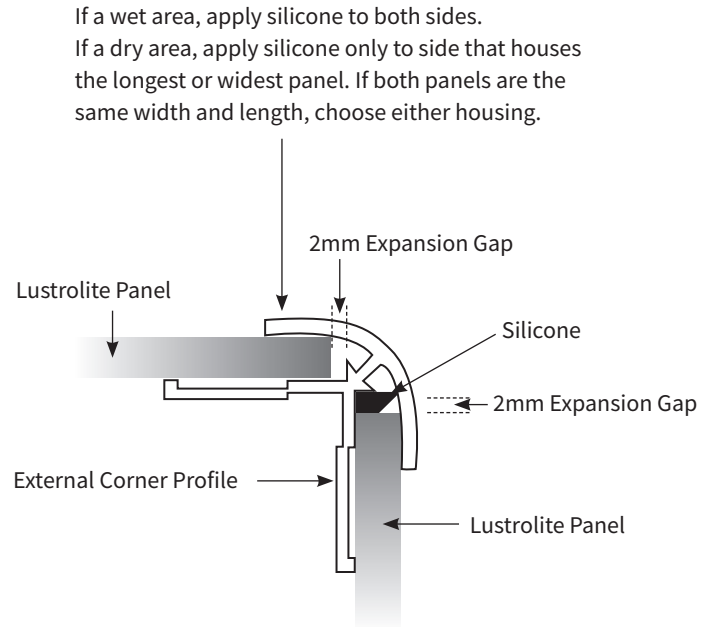

Figure 22 : Completed External Corner Profile Installation
- If installing Lustrolite in a dry area, apply silicone to the housing accommodating the longest or widest panel only (Figure 22)